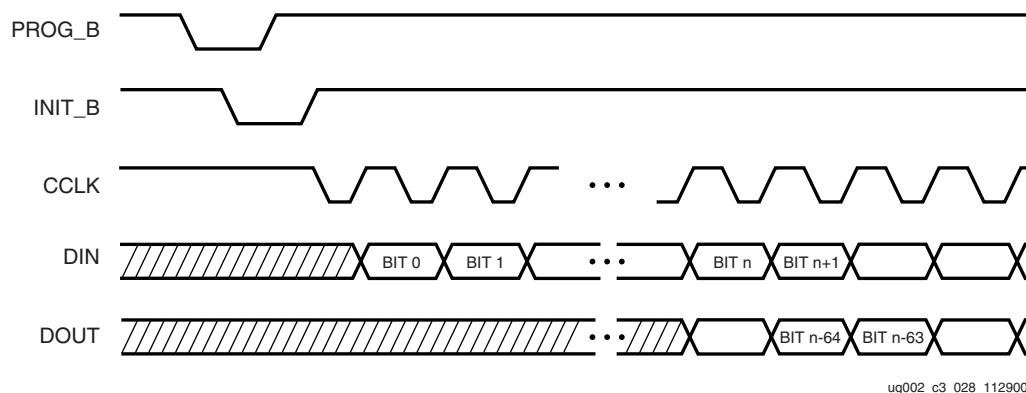

Figure 3-13: Serial Configuration Clocking Sequence
- For Slave configurations, a free running CCLK can be used, as shown in Figure 3-13.